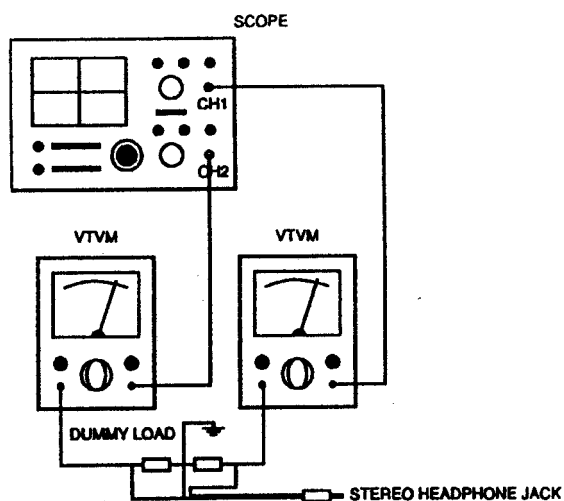

Figure1. Azimuth Adjustment
1. Connect two (2) VTVMs and a dual trace scope to the stereo headphone Jack (as shown) with a 32 ohm dummy load. (See Figure 1)